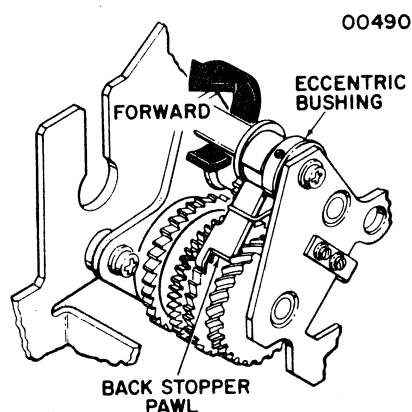

Figure 3-14. BACKSTOPPER PAWL ADJUSTMENT
4. Backstopper Adjustment (DYNAMIC) (Refer to Figure 3-14)